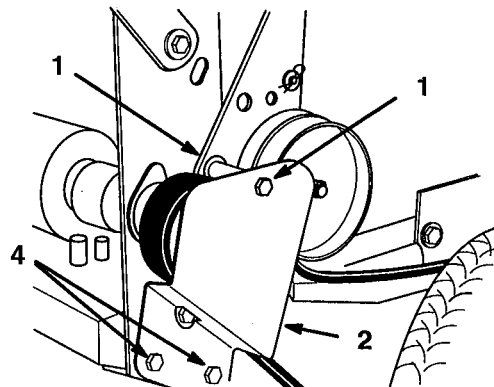

Figure 35
1. Remove top capscrew securing idler support and idler bracket to rear frame (Fig. 35).
2. Loosen bottom two mounting screws enough to allow belt to pass between drive pulley and idler support (Fig. 35).